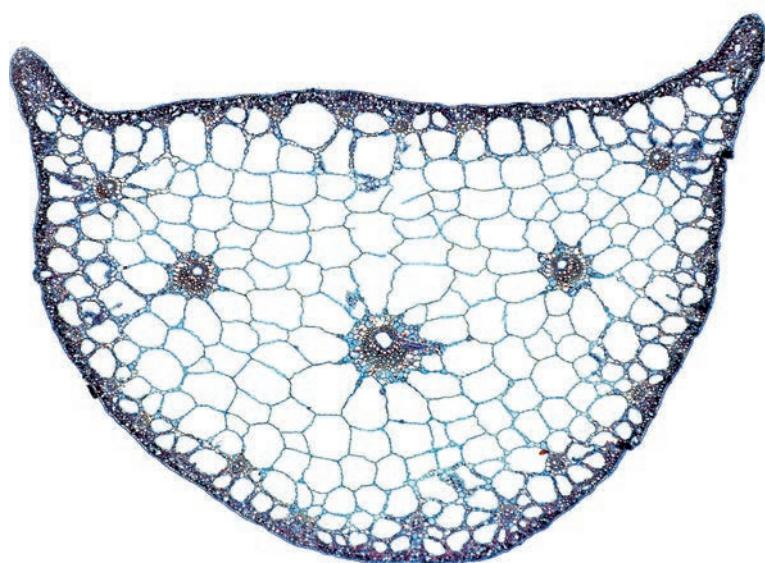

Fig. 2.3
Fig. 2.3 is the same photomicrograph without the eyepiece graticule scale and without the line X-Y.
(c) Annotate Fig. 2.3 to describe **three** observable differences between the stem sections in Fig. 2.3 and on **K1** by:
- drawing label lines to **three** features in Fig. 2.3 that show these differences